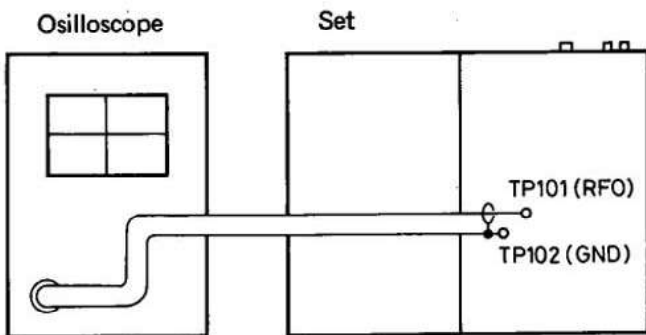

Figure 15
2. Connect oscilloscope to the set as shown Figure 15.